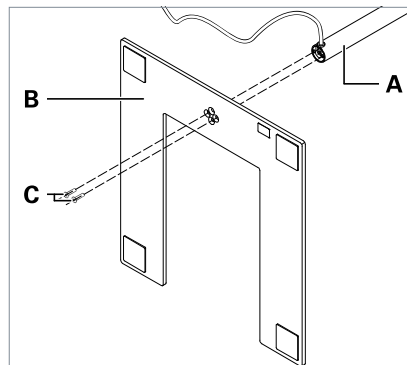

Fig. 2: Mounting the round column.
- Round column, see Fig. 2
- ▶ If you mount a **round column**: Mount column **A** using the enclosed screws **C** on the base of luminaire **B** in such a way that the connecting cable faces backwards, see Fig. 2.